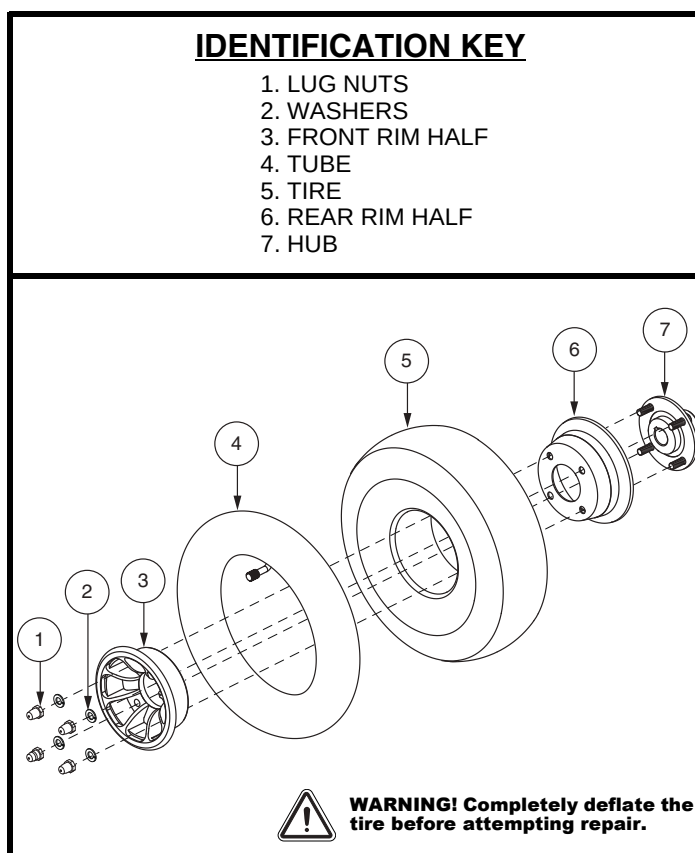

Figure 25. Pneumatic Drive Wheel Disassembly/Assembly
6. Remove the lug nuts and washers and separate the rim halves. See **figure 25**.
7. Remove the old tube from the pneumatic tire and replace it with a new tube. See **figure 25**.